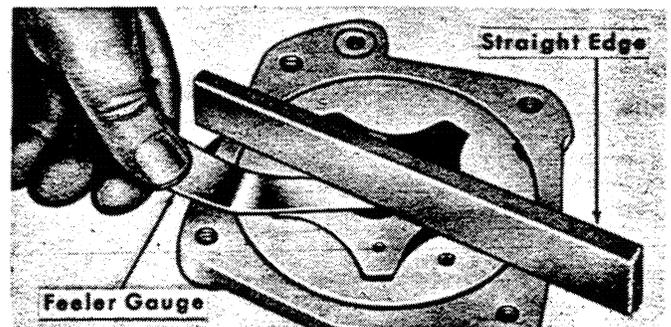

Figure 22
4. With the rotor assembly installed in the housing, place a straight edge over the rotor assembly and the housing, as shown in Figure 22. Measure the